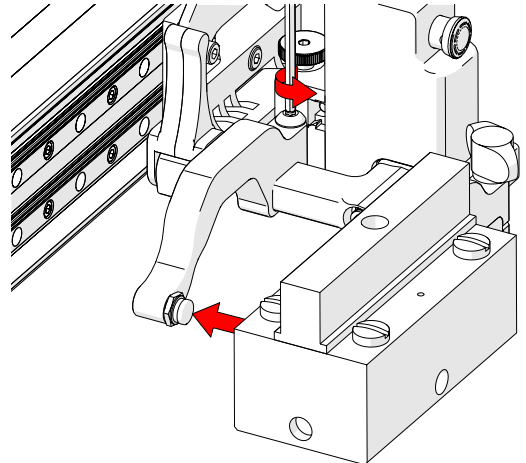

Fig. 157 - Adjust inner arm
4. Loosen the arm clamp screw (Fig. 157).
5. Place the wedge on the pivot button of the inner probe holder arm (Fig. 157).